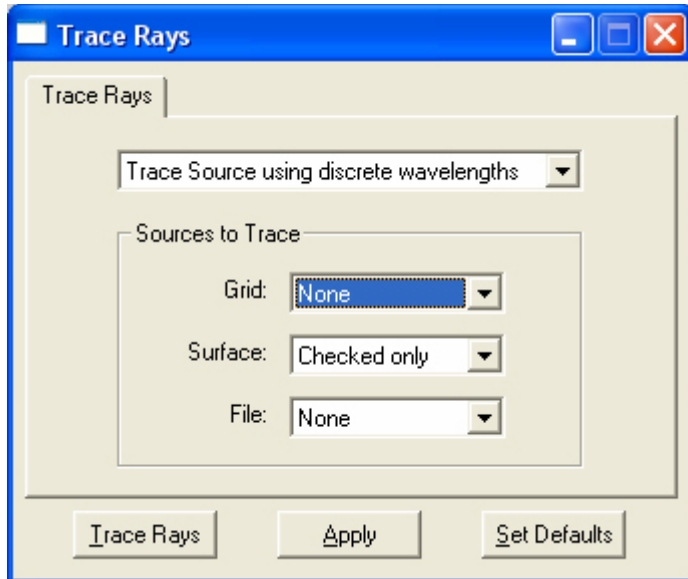

Figure 27. Trace Rays dialog.
7. Ensure that the resulting dialog is as per Fig. 27,